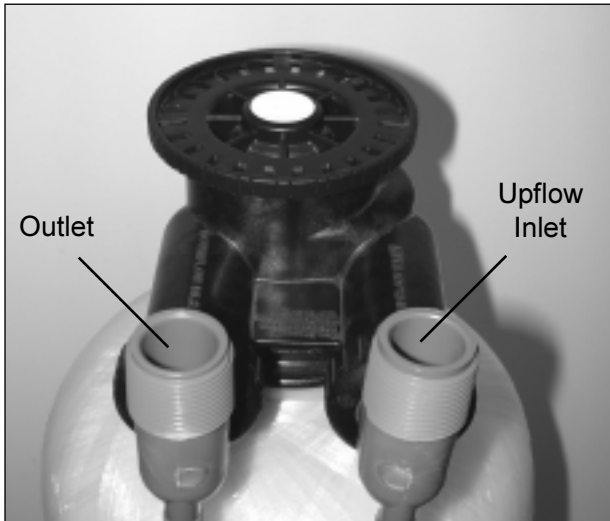

Figure 3
2. Familiarize yourself with the location of the inlet and outlet. Be very careful not to get the controls wet. Connect the inlet and outlet of the Neutralizer to the plumbing in the house. Connect the inlet water supply to the **upflow inlet side** of the head. The Econoflo Neutralizer is an upflow system. The water outlet should be hooked to the **downflow outlet side** of the head. See figure 3 for inlet/outlet connections. The head must not be subjected to temperatures above 43°C (110°F). To avoid damaging the head when sweat fittings are used, solder the threaded copper adapters to the copper pipe and then, using teflon tape, screw the assembly into the bypass valve.